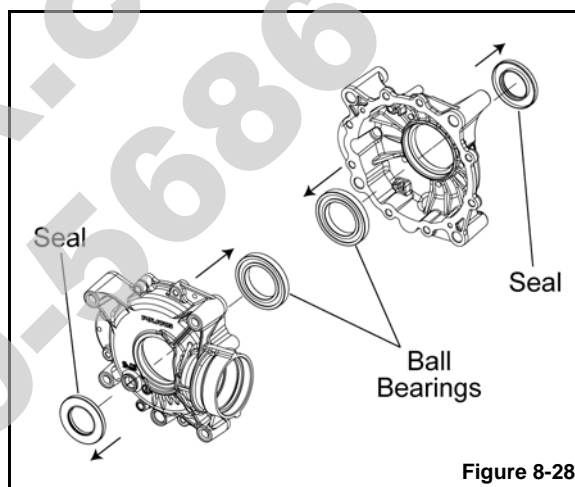

Figure 8-28
9. Remove the seals from each case half using a seal puller or other suitable method (see Figure 8-28).
10. Support the gearcase cover and press the bearing out. Repeat this procedure on the main gearcase half (see Figure 8-28).
12. Support the gearcase cover and carefully press in the new bearing. Repeat this procedure on the main gearcase half (see Figure 8-28).